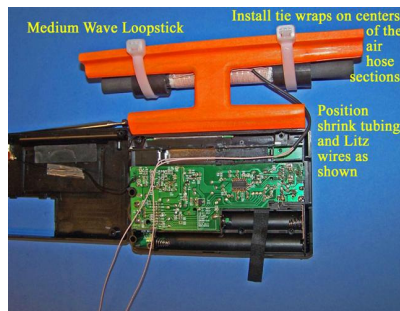
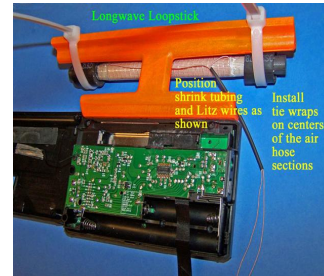

Figure 33
Figure 34
31) (Medium Wave Loopstick) Refer to Figure 33. Taking care to keep the Litz wires parallel (without any sharp bends or kinks), shift the shrink tubing along the Litz wires until it is in the position shown in Figure 33, very close to the loopstick. Place the loopstick in the position shown under the loopstick frame, and install two plastic tie wraps loosely around the centers of the rubber air hose sections (in
the positions shown). When you are sure that the plastic tie wraps are in the exact centers of the rubber air hose sections and that the loopstick is centered on the loopstick frame (with equal lengths of the frame extending past the ends of the ferrite rod), tighten the plastic tie wraps securely and cut off the excess lengths. Position the Litz wires as shown in Figure 33.
31a) (Longwave loopstick) Refer to Figure 34. Taking care to keep the Litz wires parallel (without any sharp bends or kinks), shift the shrink tubing along the Litz wires until it is in the position shown in Figure 34, very close to the loopstick. Place the loopstick in the position shown under the loopstick frame, and install two plastic tie wraps loosely around the centers of the rubber air hose sections (in the positions shown). When you are sure that the plastic tie wraps are in the exact centers of the rubber air hose sections and that the loopstick is centered on the loopstick frame (with equal lengths of the frame extending past the ends of the ferrite rod), tighten the plastic tie wraps securely and cut off the excess lengths. Position the Litz wires as shown in Figure 33 (from now on, the Medium Wave and Longwave loopstick directions will be identical).